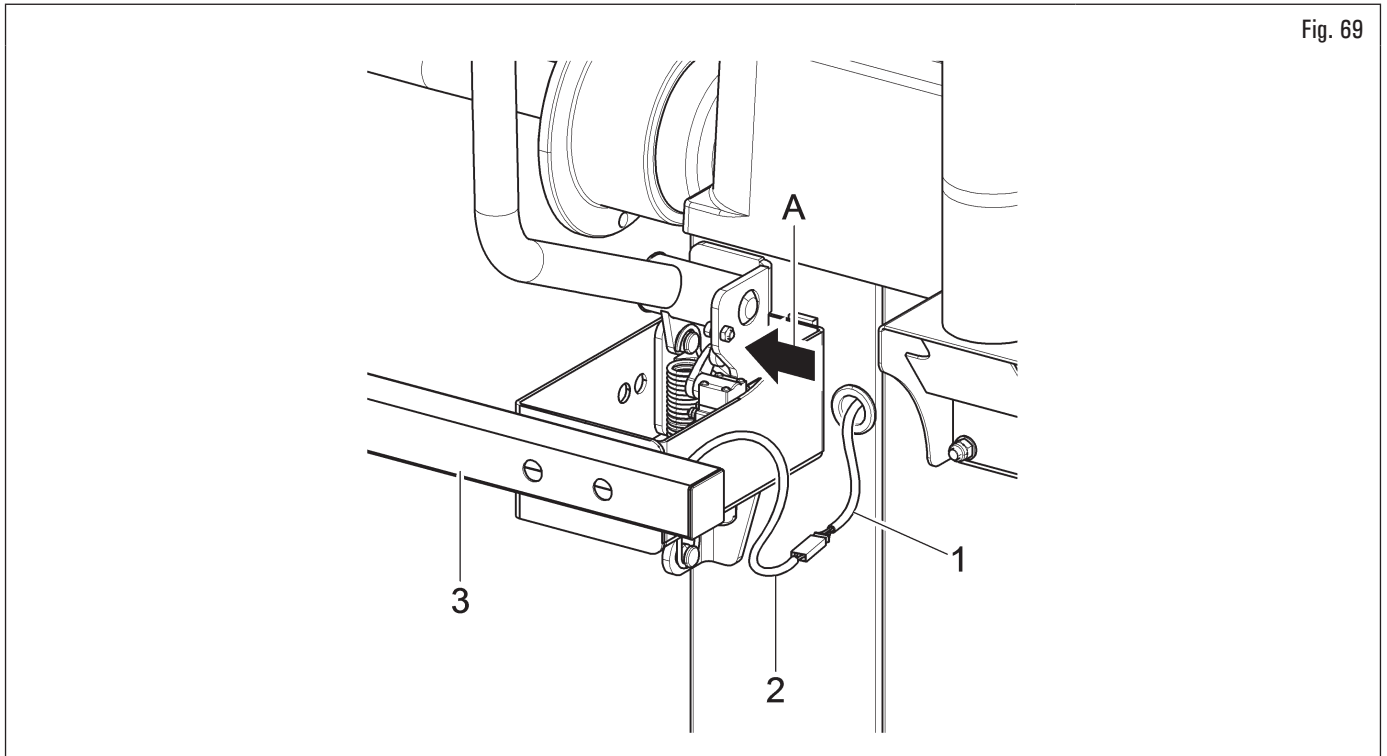

Fig. 69
6. connect the connector (Fig. 69 ref. 1) of the cable coming from inside the equipment to connector (Fig. 69 ref. 2) of the cable coming from the gauge arm. Fit the section of the cable with the connectors inside the arm (Fig. 69 ref. 3);